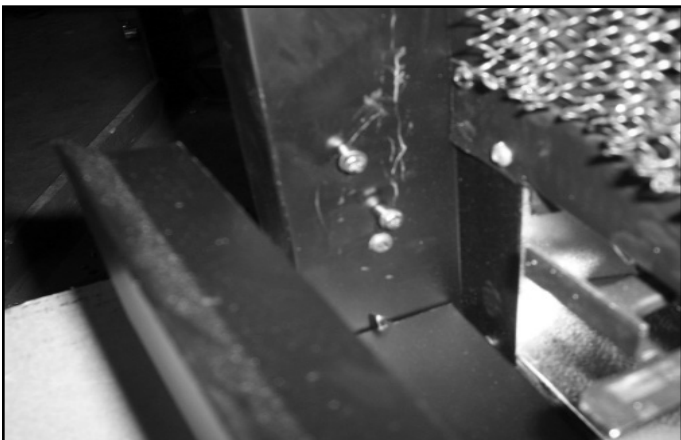

Figure 14.12 Attach Bottom Grille
- Attach the bottom grille by aligning slots of bottom grille with shoulder screws in columns. See Figure 14.12.